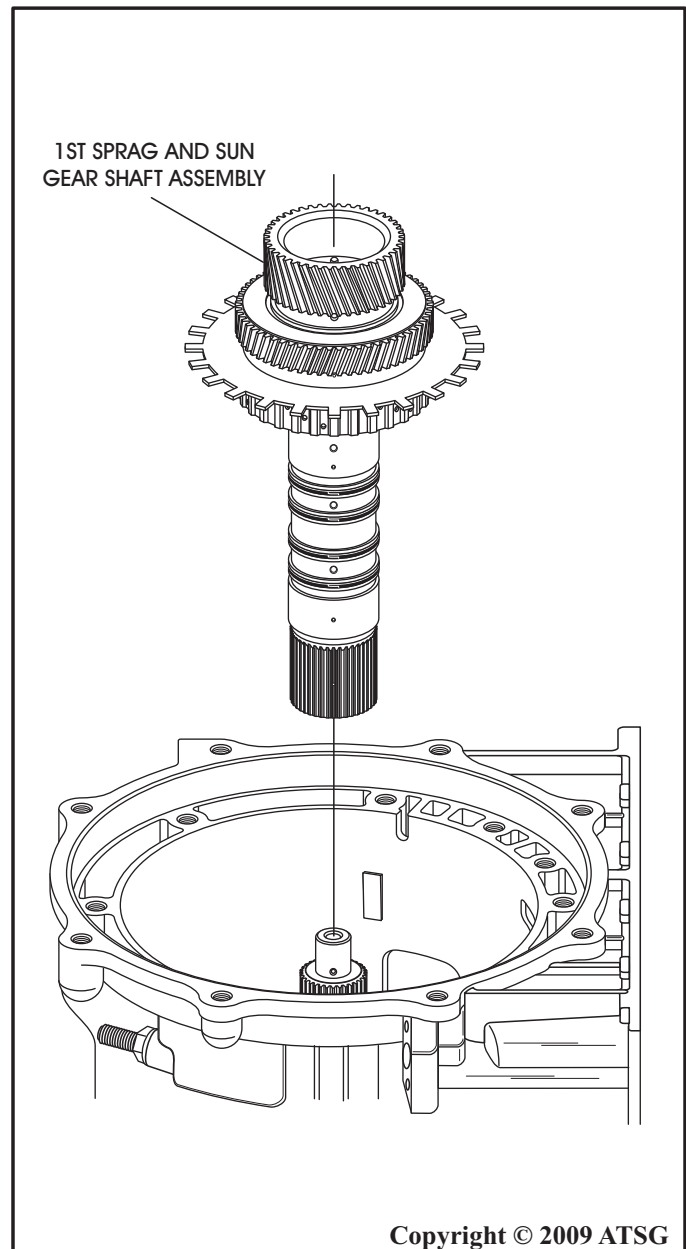

Figure 49
32. Remove 1st sprag and sun gear shaft assembly from the case, as shown in Figure 49.